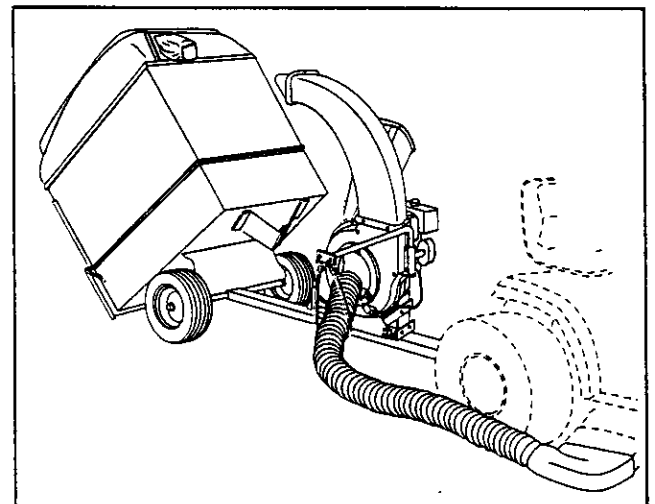

FIGURE 36
- Release the latch holding cart down to the tongue by pulling up on the latch lever. See figure 36.